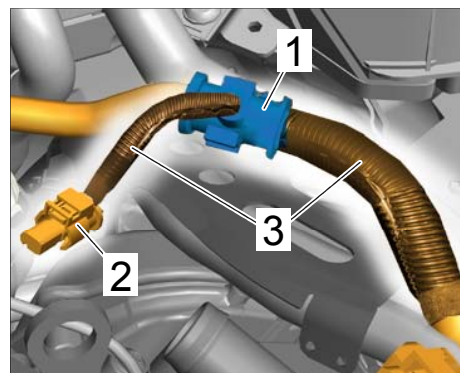

Figure 21
- 5.26 Fit junction on the main wire harness ⇒ *Figure 21* -**item 1**- to the connector ⇒ *Figure 21* -**item 2**-. Make sure that the two sleeves ⇒ *Figure 21* -**item 3**- are secured in the junction.